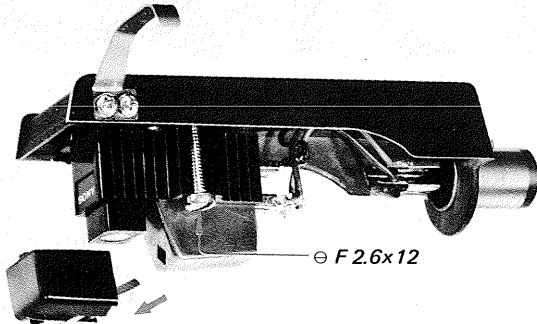

Fig. 2-4. Stylus tip and cartridge removal
1. Pull out the worn stylus tip and install the replacement tip as shown in Fig. 2-4.
2. Remove the two screws (Ø F 2.6 x 12) (see Fig. 2-4) securing the cartridge to the shell head with a jeweler's screwdriver.